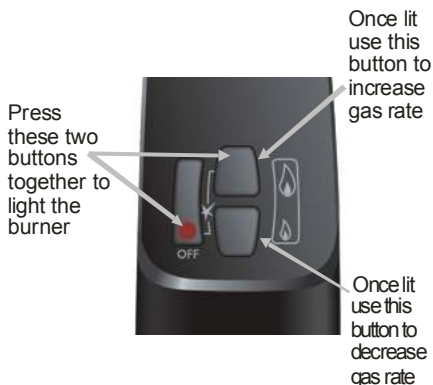

Figure 16 – Total Control Handset
4. To adjust the gas rate to desired setting press the  (large flame) to increase the flame height or  (small flame) to decrease the flame height on the handset (see **Figure 16**).